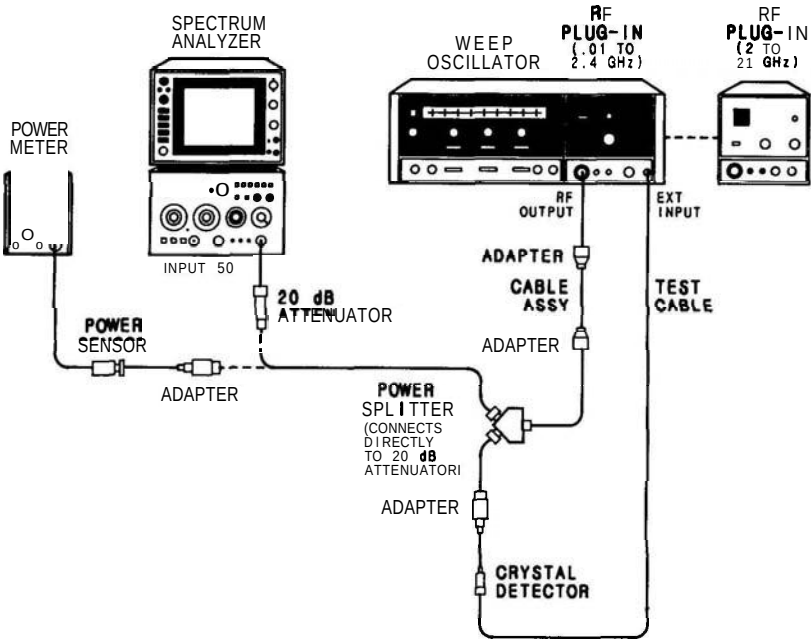

FIGURE 4-14. FREQUENCY RESPONSE TEST SETUP
- Using 0.01– 2.4 GHz sweep oscillator plugin, connect equipment as shown in Figure 4-14. Connect output of power splitter through 20-dB attenuator to spectrum analyzer input. Turn sweep oscillator RF power ON and adjust ALC GAIN control for leveled output indication.